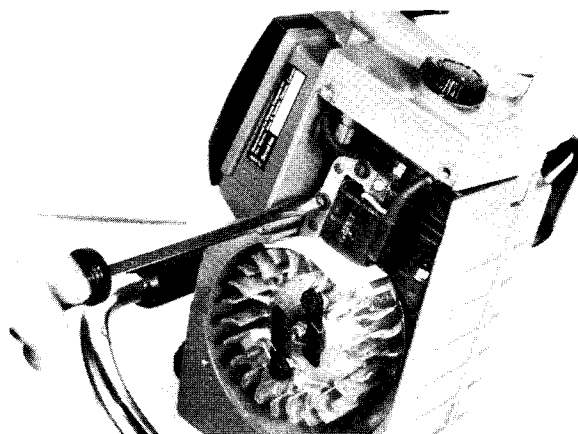

Fig. 50 — Setting Air Gap
21. Reinstall points (if removed), adjust gap to .015" and install flywheel. Adjust air gap between coil and flywheel to .008", Fig. 50.